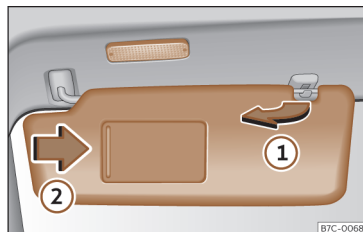

Fig. 85 Sun visor
- The sun visor can be pulled out of its mounting and turned towards the door >>> Fig. 85 ①.